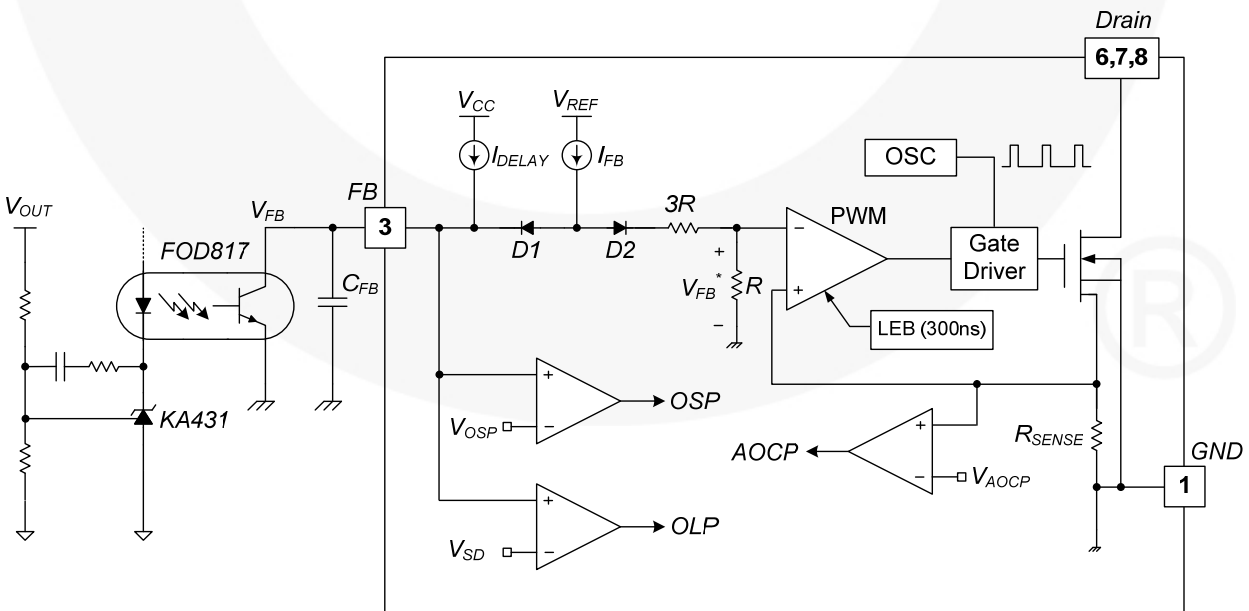

Figure 19. Pulse Width Modulation Circuit
3. Feedback Control: This device employs current-mode control, as shown in Figure 19. An opto-coupler (such as the FOD817) and shunt regulator (such as the KA431) are typically used to implement the feedback network. Comparing the feedback voltage with the voltage across the R_{SENSE} resistor makes it possible to control the switching duty cycle. When the reference pin voltage of the shunt regulator exceeds the internal reference voltage of 2.5V, the opto-coupler LED current increases, pulling down the feedback voltage and reducing drain current. This typically occurs when the input voltage is increased or the output load is decreased.
3.1 Pulse-by-Pulse Current Limit: Because current-mode control is employed, the peak current through the SenseFET is limited by the inverting input of the PWM comparator (V_{FB}^*), as shown in Figure 19. Assuming that the $90\mu A$ current source flows only through the internal resistor ($3R + R = 27k\Omega$), the cathode voltage of diode D2 is about 2.5V. Since D1 is blocked when the feedback voltage (V_{FB}) exceeds 2.5V, the maximum voltage of the cathode of D2 is clamped at this voltage. Therefore, the peak value of the current through the SenseFET is limited.